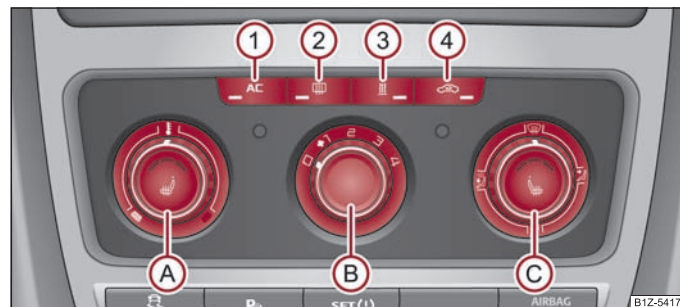

Fig. 107 The air conditioning system: Control elements
The cooling only operates if button  \Rightarrow fig. 107  is pressed, and the following conditions are met:
- Turn the control dial  \Rightarrow fig. 107 to the right in order to increase the temperature.
- Press the button   ⇒ fig. 107. The warning light lights up in the button.
- Controls (A), (B), (C) and the (1) button and (4) ⇒ page 94, fig. 107.
- Press the button  (4) ⇒ page 94, fig. 107 the warning light lights up in the button.
The recirculated air mode is switched off automatically if the air distribution control  is in position  ⇒ page 94, fig. 107. You can also switch recirculated air mode on again from this setting by repeatedly pressing pushbutton .